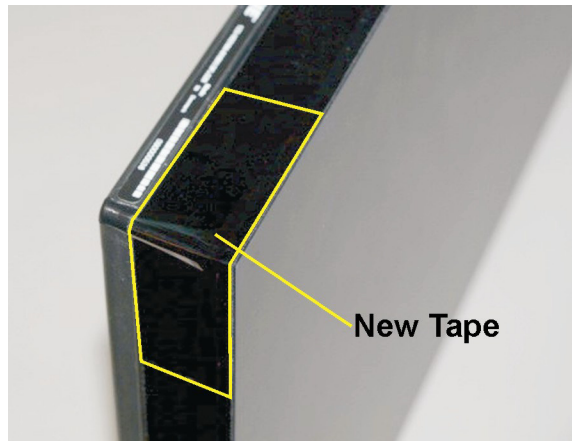

Figure 4 Apply Tape to Screen Frame
4. Apply tape to the sides of the screen. **NOTICE:** Make sure that the new tape does not protrude past the front of the screen (Figure 4).